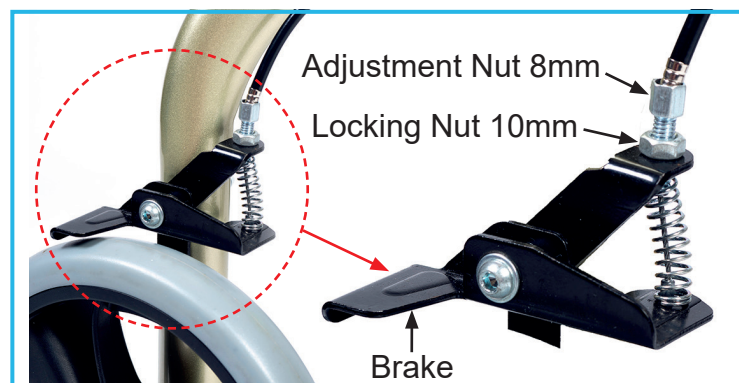

Figure 11: Adjusting the Brakes
1. Refer to Figure 11. The brake adjustment nut is located at the bottom of the brake cable, above the rear wheel on both sides.